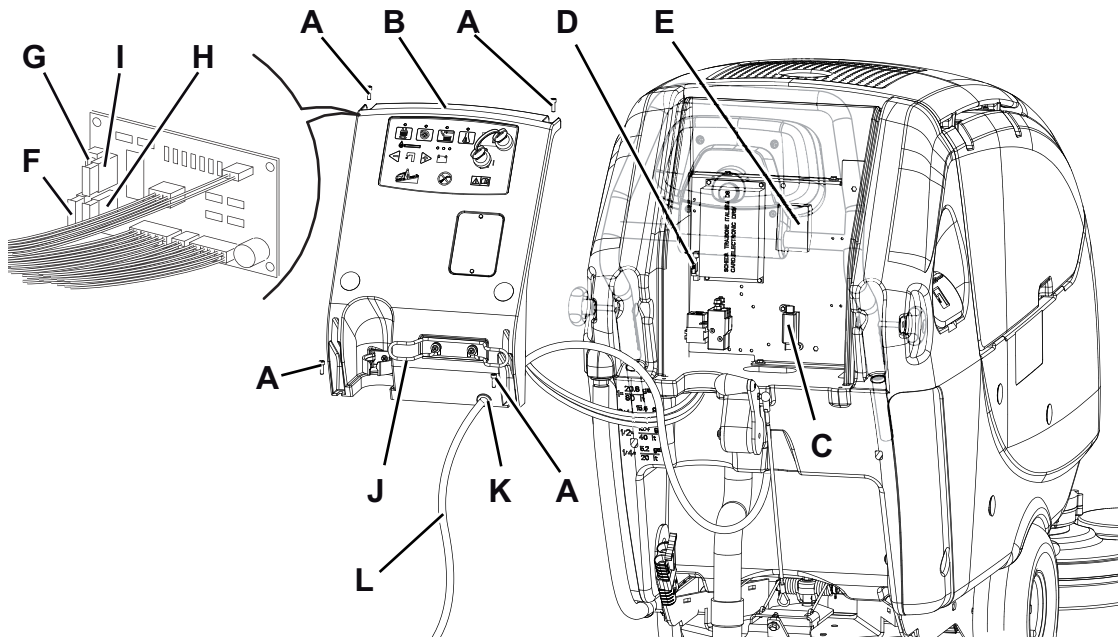

Figure 9
1. Disconnect the battery connector (12).
2. Move aside the recovery water drain hose (16).
3. Remove the battery charger cable (L, Fig. 9) from the cable holder (J).
4. Remove the screws (A) and carefully move aside the panel (B) by disengaging the grommet (K) from its housing on the panel (B).
- (A): Brush deck fuse F1: (50 A)
- (B): Vacuum system fuse F2: (30 A)
- (C): Drive system fuse F3: (60 A)
- (D): Signal circuits fuse F4: (3 A)
- (E): Brush/pad-holder release fuse F5: (20 A)
- (F): Pump fuse F6: (3 A)
- (G): Actuator fuse F7: (10 A)